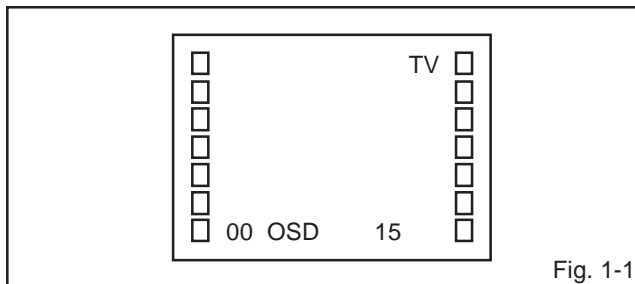

Fig. 1-1
1. In the condition of NO indication on the screen. Press the VOL. DOWN button on the set and the channel button (9) on the remote control for more than 1 second to appear the adjustment mode on the screen as shown in Fig. 1-1.
3. Activate the adjustment mode display of Fig. 1-1 and press the channel button (02) on the remote control to select "RF AGC".
3. Activate the adjustment mode display of Fig. 1-1 and press the channel button (01) on the remote control to select "CUT OFF".